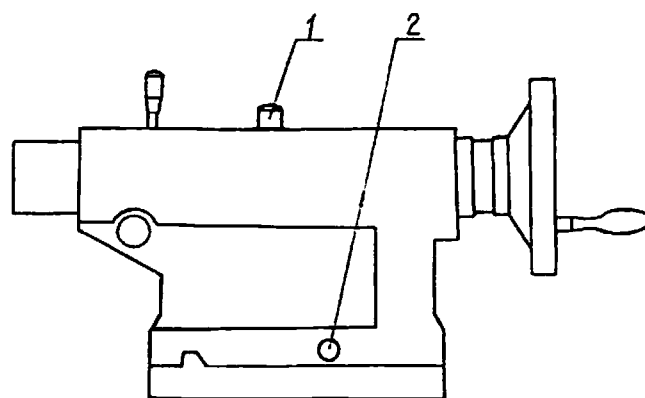

Fig: 8
1. Lock tailstock in position by raising clamping lever (1, Fig.8)
2. Alternately loosen and tighten front and rear setscrews (2, Fig.8)
3. Tighten both set screws (2, Fig.8)